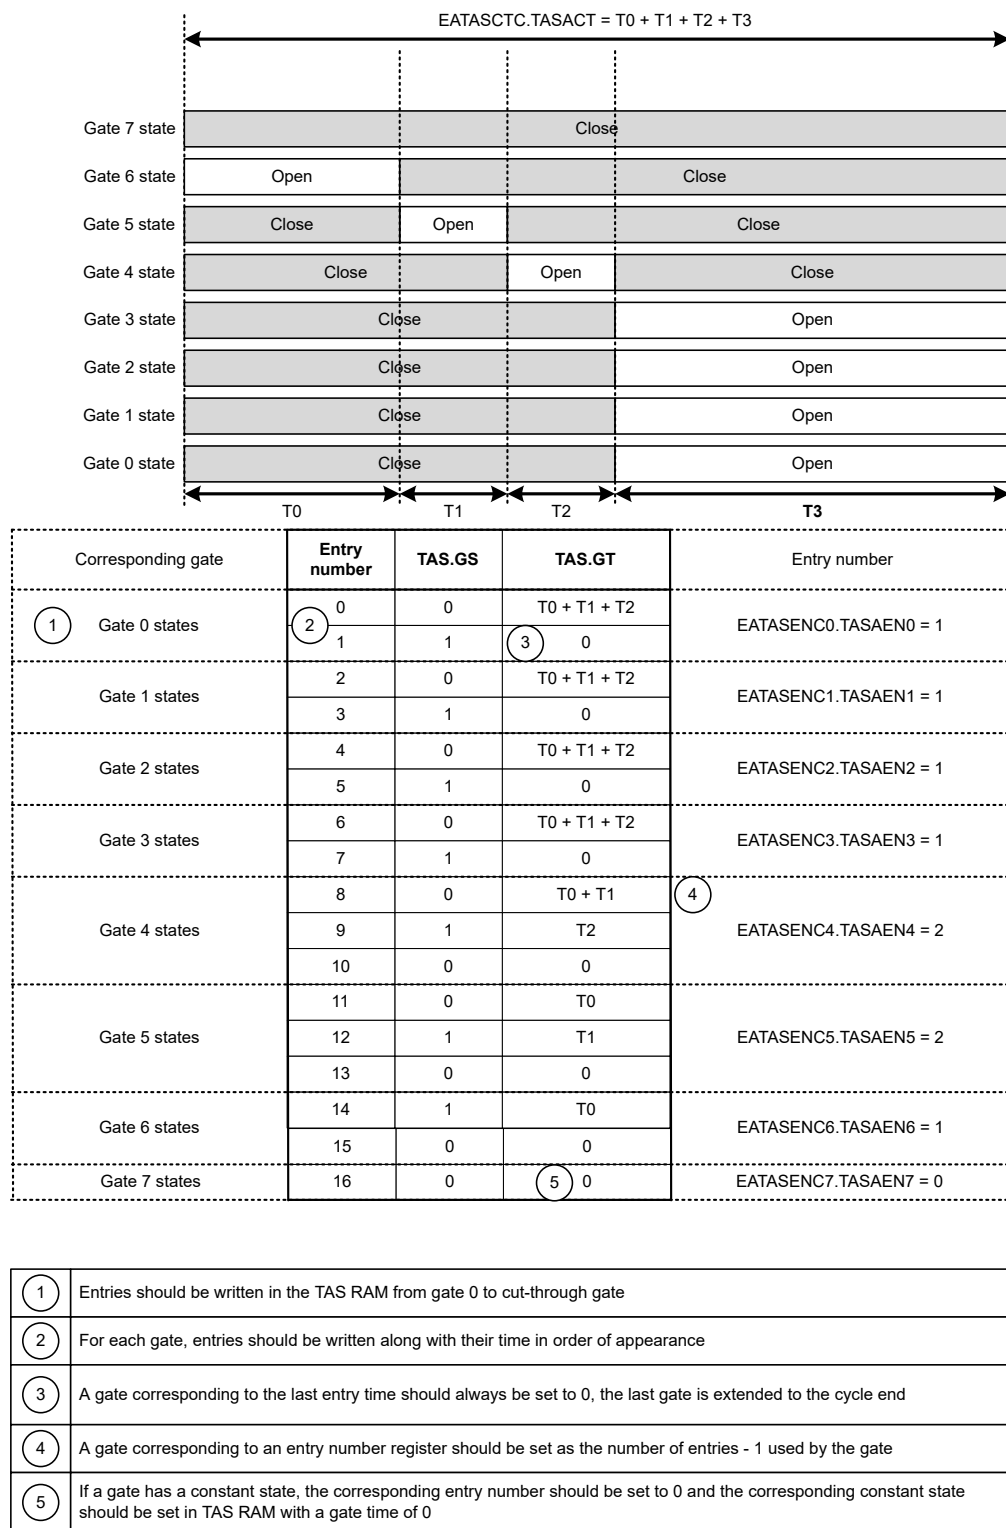

Figure 32.27
Figure 32.27 describes how to convert a schedule into a set of TAS entries and how to set the schedule corresponding register through an example.
- SW: Each gate time (T_0 , T_1 , T_2 , T_3 in Figure 32.27) should be greater or equal to $50 \text{ ns} + EATASHCC.TASJ$.